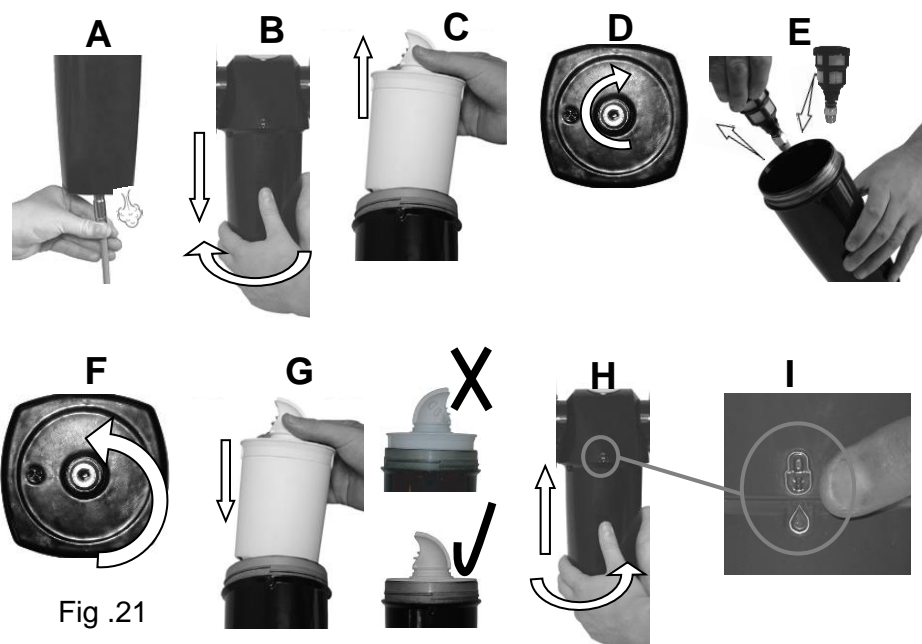

Fig .21
(Fig. 21)
- Remove the nuts (1) and covers (4) on the lower part of the enclosure beneath the air pumps two times and remove the filters (5).
- Remove the nuts (1) and covers (2) inside the enclosure three times and remove the filters (3).
- In Point A, remove the foam, remove the 4 screws (5), washers (6) and remove the suction filter cover (7). – (Fig. 21)
- Remove the 2 nuts (8) on the filter bracket (9) and remove the filter (10).
- In Point B (on the sides (11)), remove the 2 nuts (12), washers (13), release the filter bracket (14) and remove the filter (15).